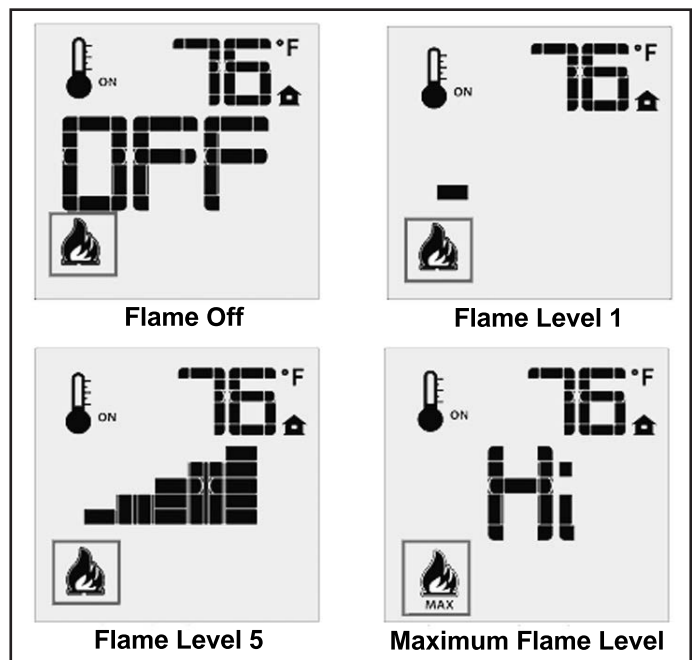

Figure 14: Remote Control's Flame Levels.
The Proflame 2 GTMF has six (6) flame levels. With the system on, and the flame level at the maximum in the appliance, pressing the Down Arrow Key once will reduce the flame height by one step until the flame is turned off. The Up Arrow Key will increase the flame height each time it is pressed. If the Up Arrow Key is pressed while the system is on but the flame is off, the flame will come on in the high position (refer to Figure 14). A single "beep" will confirm reception of the command.